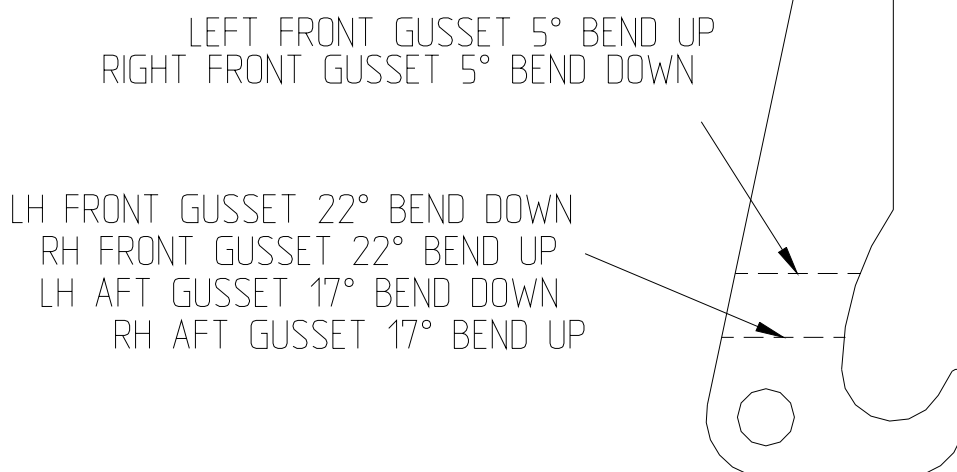

Figure 2: Replacement gussets of brackets
3. Remove the LN9348-10 stop nuts, the DIN125 M10 washers and the LN9037-10054 bolts of the top half of the mounting clamps. Refer to Figure 2 of Chapter 32-11-02 of the Service Manual.
8. Separate the needed section for the rear mounting brackets from parts EA-27102.301-01 & -02. Trim these steel gussets so that they fit to the remaining rear mounting. The initial position of the mounting must be regained (refer to Figure 2).
9. Bend the front gussets as shown on drawing in Figure 2 to fit close to the related adjacent steel tubes.